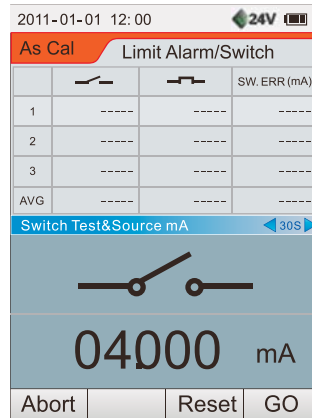

Figure 9.40 Data sheet
2. Use  or  key to select the limit alarm / switch option, press  or  key to enter As Cal execution interface (Figure 9.40).